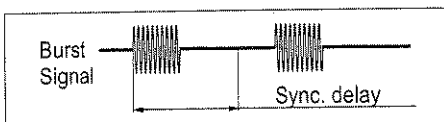

Fig. 6-7 Set the sync delay so that it expires in the gap between the bursts.
- Set a sync delay longer than the burst duration and shorter than the burst repetition period. See Fig. 6-7.
- Set a sync delay longer than the burst duration and shorter than the burst repetition period. See Figure 6-7.